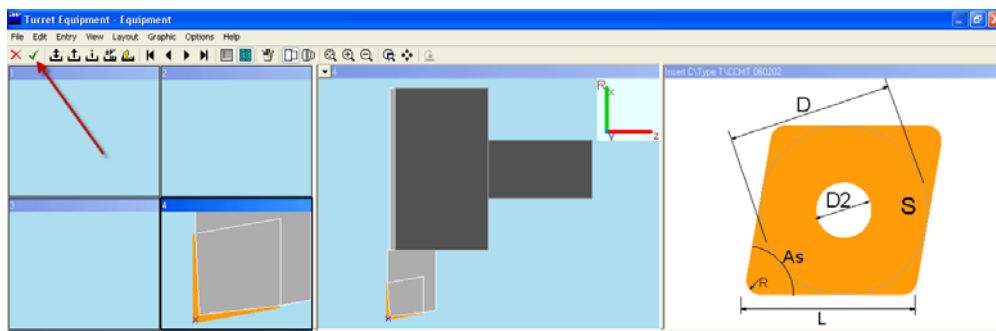

Fig. 2.20
f. Click “**Save and quit**” . Fig. 2.20